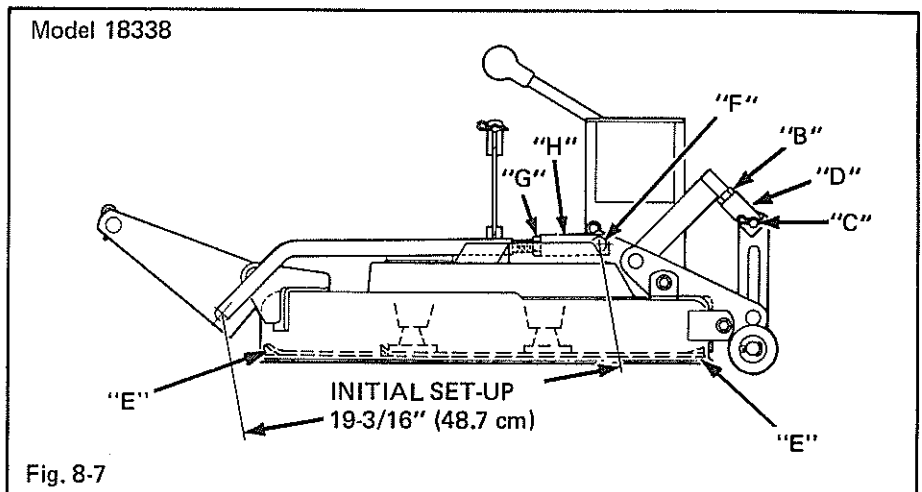

Fig. 8-7
3. Place cutting height adjustment lever (A), Fig. 8-7 in No. 4 position and lower mower with tractor lift.
4. Check side to side level by measuring distance between blade tip and floor Fig. 8-7. If distance varies more than 1/16" (1.56 mm) from left hand side to the right hand, adjustment is necessary.
5. Raise mower with tractor lift and adjust side to side by turning clevis up or down on left hand side of mower. Loosen jam nut (B), remove spring cotter and clevis pin (C).
6. Rotate clevis (D) 1/2 turn to achieve a 1/32" (.78 mm) adjustment. If side of mower is too low, lengthen rod. Shorten rod if too high.
9. Check front to rear leveling by measuring the distance from the blade tip (E) Fig. 8-7 and the floor. If distance varies more than 1/8" front to back, adjustment is necessary. Adjust as follows:
10. Lift mower with tractor lift, remove pins (F) and loosen jam nuts (G) on the tie rods, Fig. 8-7.
11. One turn of clevis (H) Fig. 8-7, will vary the rod length approximately 1/16" (1.56 mm). Shorten rod to raise front of mower and lengthen to lower. Turn both rods same number of turns.